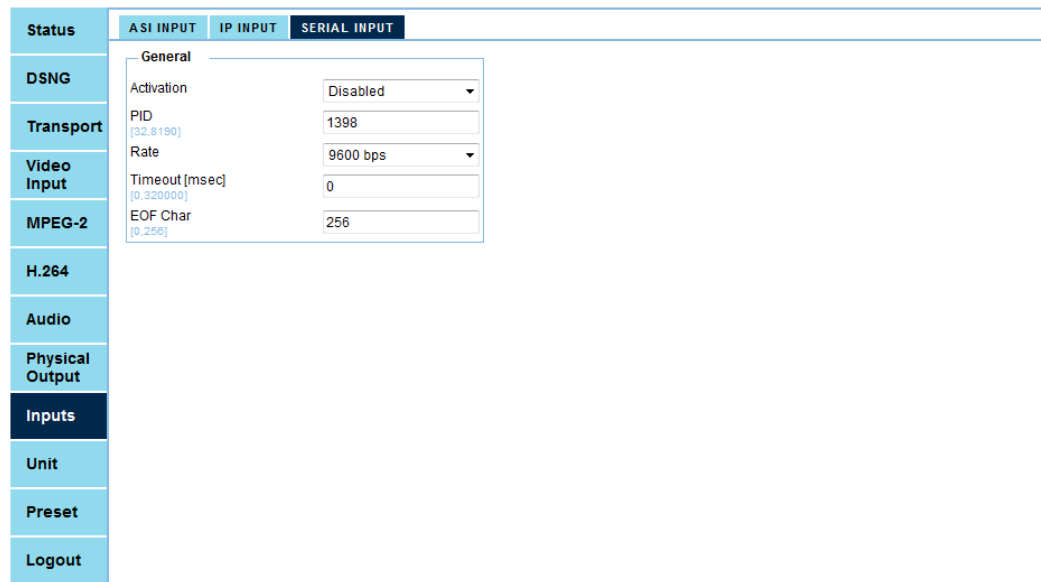

Figure 8–4: Serial Inputs LSD Web Managed Menu Display
- ❖ Select **Inputs > SERIAL INPUT > LSD** (See Figure 8–4).